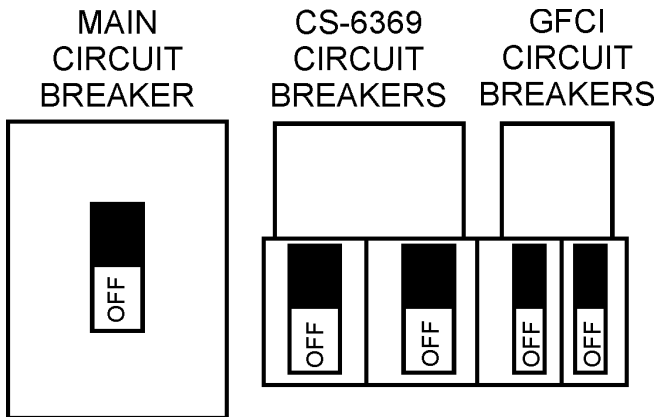

Figure 38. Main, Aux. and GFCI Circuit Breakers (OFF)
1. Place the **main, G.F.C.I., and aux.** circuit breakers (Figure 38) in the **OFF** position.